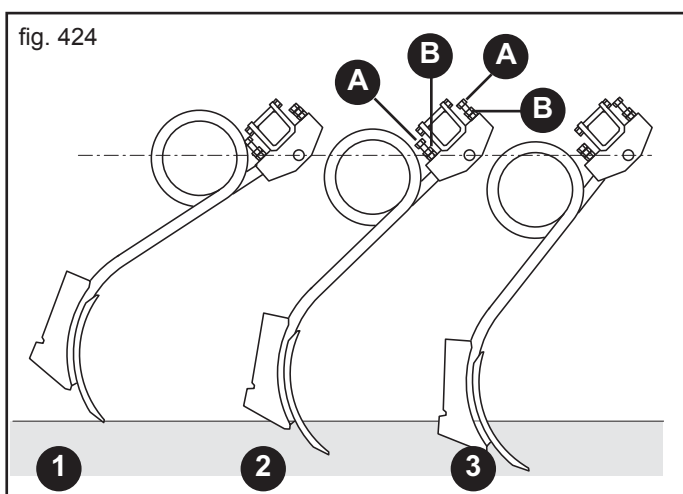

fig. 424
The individual degree of penetration of each arm can be adjusted by loosening the nuts (B, Fig. 424) and turning the screws (A, Fig. 424):
- Surface seed planting (1, Fig. 424);
- Medium depth seed planting (2, Fig. 424);
- Deep seed planting (3, Fig. 424).